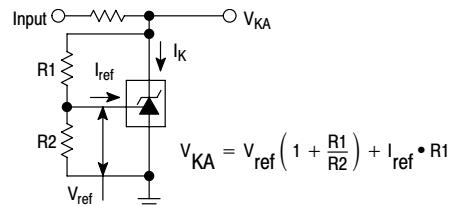

Figure 2. Test Circuit for  $V_{KA} > V_{ref}$
3. The dynamic impedance  $Z_{KA}$  is defined as:  $|Z_{KA}| = \frac{\Delta V_{KA}}{\Delta I_K}$ . When the device is programmed with two external resistors,  $R_1$  and  $R_2$ , (refer to Figure 2) the total dynamic impedance of the circuit is defined as:  $|Z_{KA}'| \approx |Z_{KA}| \left( 1 + \frac{R_1}{R_2} \right)$
6. The dynamic impedance  $Z_{KA}$  is defined as  $|Z_{KA}| = \frac{\Delta V_{KA}}{\Delta I_K}$  When the device is programmed with two external resistors,  $R_1$  and  $R_2$ , (refer to Figure 2) the total dynamic impedance of the circuit is defined as:  $|Z_{KA}'| \approx |Z_{KA}| \left( 1 + \frac{R_1}{R_2} \right)$